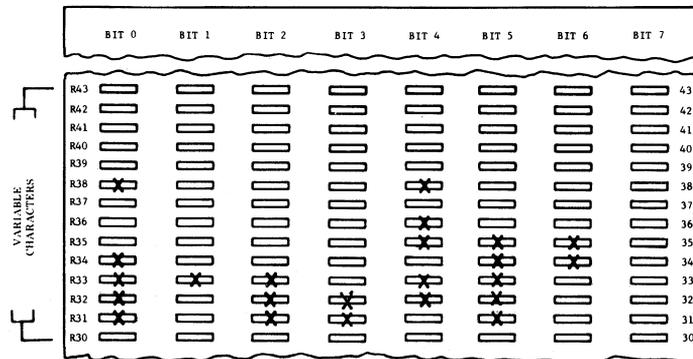

Fig. 26—Example 3: 410734 Diode Matrix Circuit Card Optioning
Example 3: Rows R30 through R43 (Fig. 26):
- (a) Row 44 diodes Bit 0 through Bit 7 relate to system protocol and format selections (Option 171). Option 171a (Point-to-Point Private Line) format is illustrated in Fig. 26.